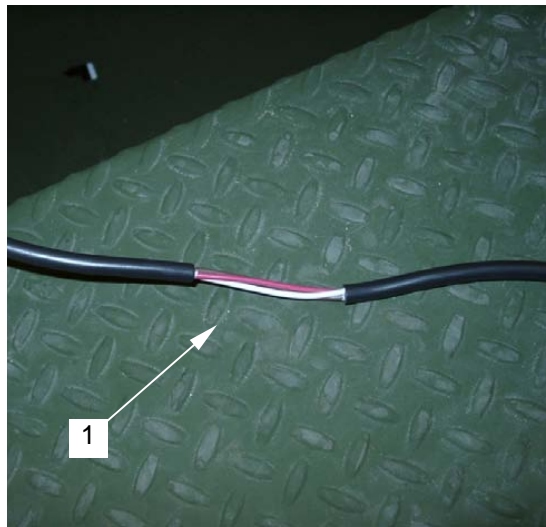

Figure 16. Wire Insulation
25. Strip 6-in of outer insulation off of wire (**figure 16, item 1**).